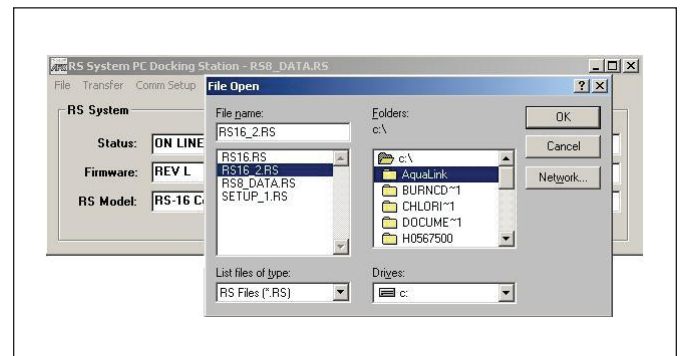

Figure 10. File Open Dialog Box
- Open the setup file that you want to send to the Power Center PCB. From the **File** menu, choose **Open**. The File Open dialog box opens and allows you to select the file that contains the setup data you want to transfer to the Power Center PCB (see Figure 10).